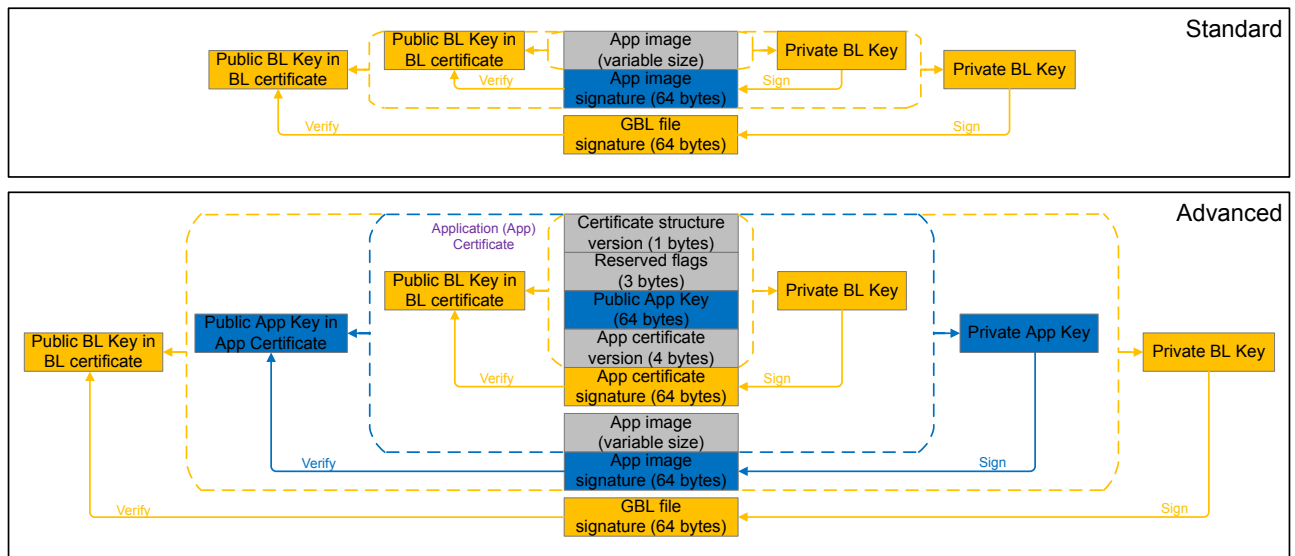

Figure 2.14. Application GBL Upgrade File Using a Bootloader Certificate
1. The application GBL upgrade file can be signed by the Private Bootloader Key as in Figure 2.14 Application GBL Upgrade File Using a Bootloader Certificate on page 25. A similar operation can apply to bootloader and secure element GBL upgrade files.
1. The application GBL upgrade file can also be signed by the Private GBL key as in Figure 2.14 Application GBL Upgrade File Using a Bootloader Certificate on page 25. A similar operation can apply to bootloader and secure element GBL upgrade files.